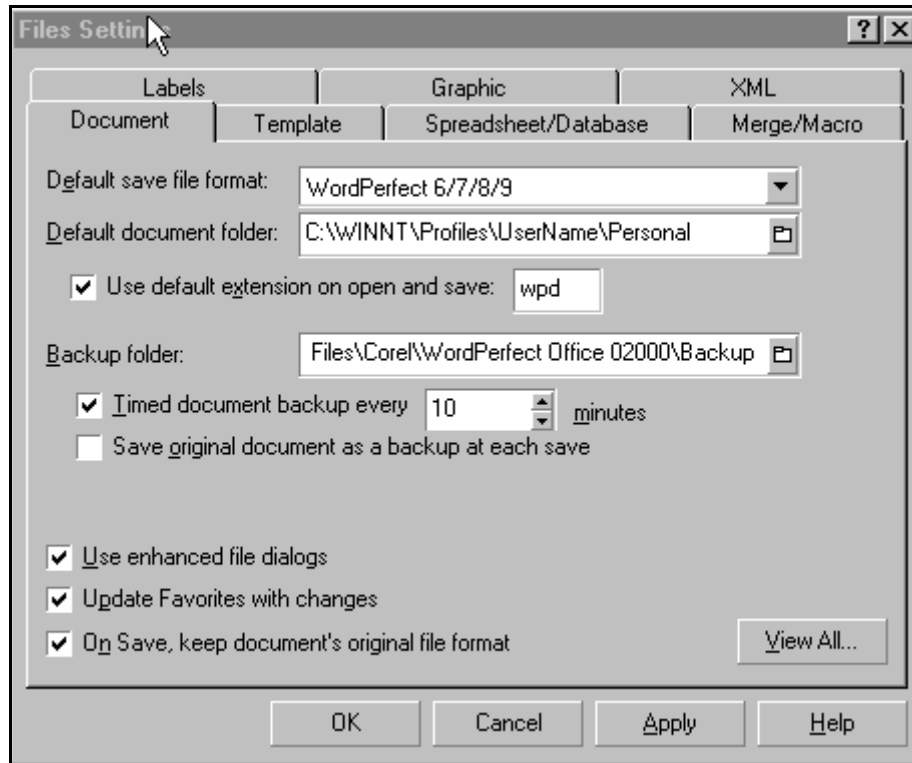

Figure 2-4 Document Tab
14. Click the **D**ocument tab (see Figure 2-4).